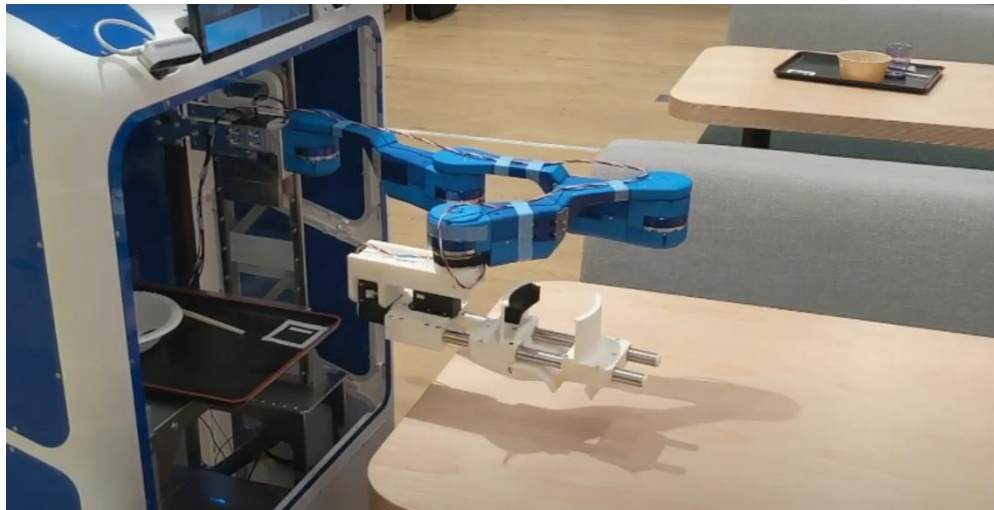
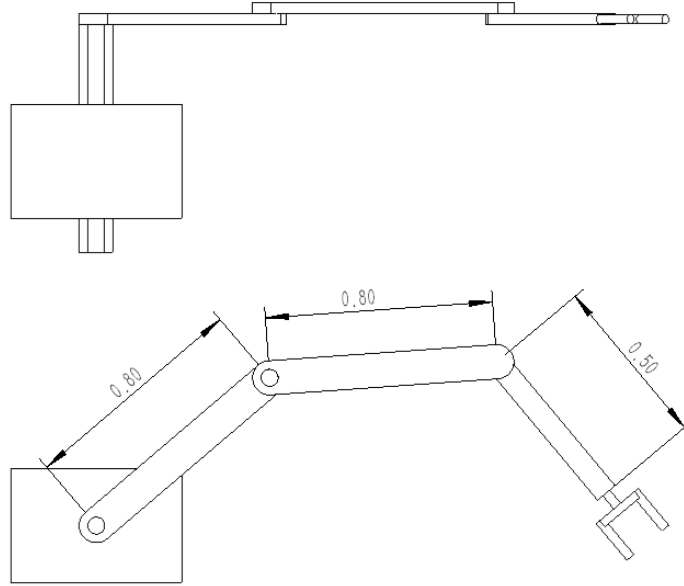

Figure 1: The table cleaning robot
Figure 2: Structure and geometry of the robot (m)
In this project, we consider the modelling and control of the ACUR-C table cleaning robot, as shown in Figure 1. The structure and geometry of the robot are presented in Figure 2. The table cleaning robot could pick up and handle a variety of tableware with AI, as well as wipe the table.
- i. Determine the D-H table and the Jacobian matrix of the cleaning robot (See Figure 2). Make reasonable assumptions on necessary parameters.